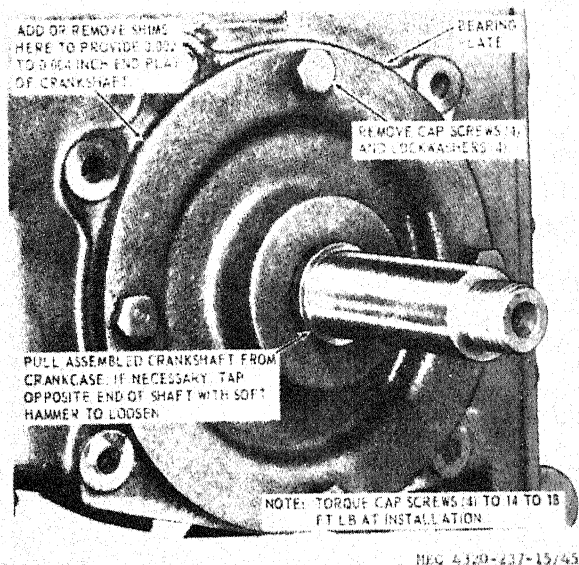

Figure 45. Crankshaft, removal and installation.
- (1) Remove the piston and connecting rod (para 96).
- (2) Refer to figure 45 and remove the crankshaft assembly.
- (1) Refer to figure 45 and install the crankshaft.
- (2) Install the piston and connecting rod (para 96).